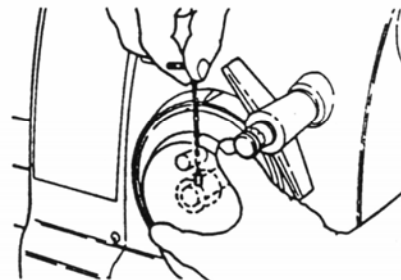

Fig. 5
4. Remove the speed control handle. With the access hole in the side of the speed control handle facing up, insert a $3/32"$ Allen wrench in the hole and loosen the setscrew holding the handle to the worm control shaft, as seen in Fig. 5. Pull the control handle assembly free of the shaft.